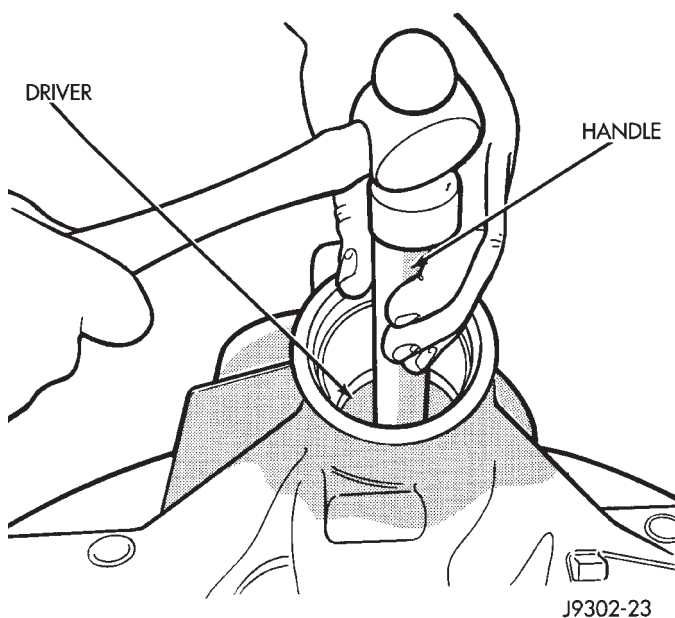

Fig. 26 Rear Bearing Cup Removal
(10) Remove the rear bearing cup from housing (Fig. 26). Use Remover 8132 and Handle C-4171.